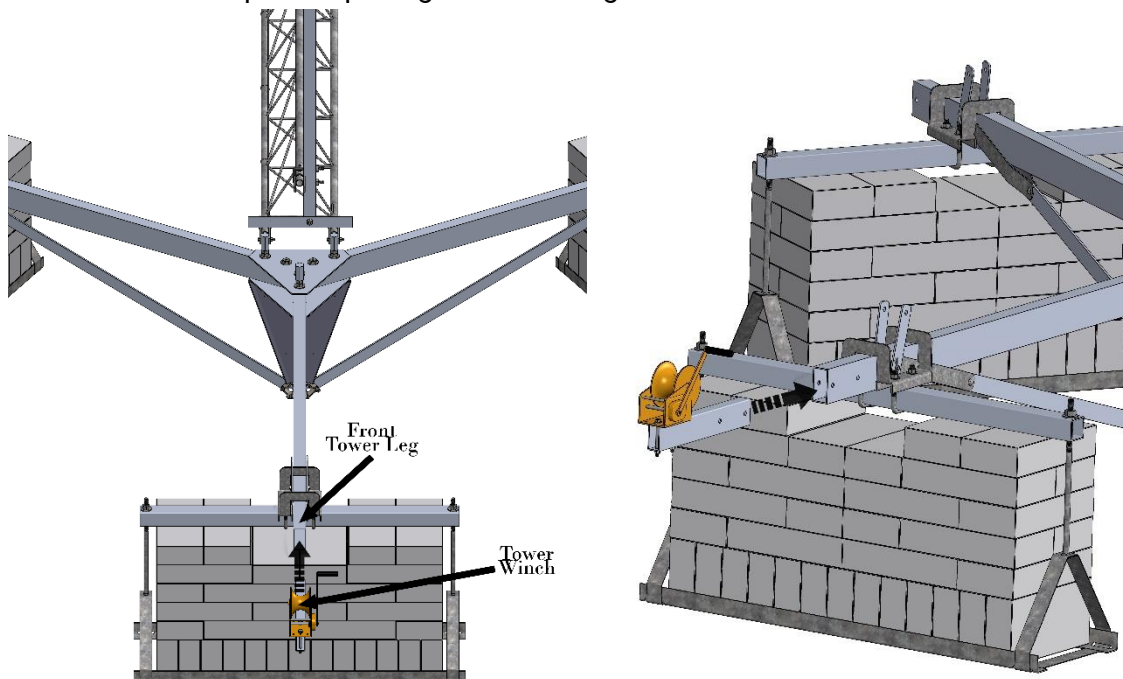
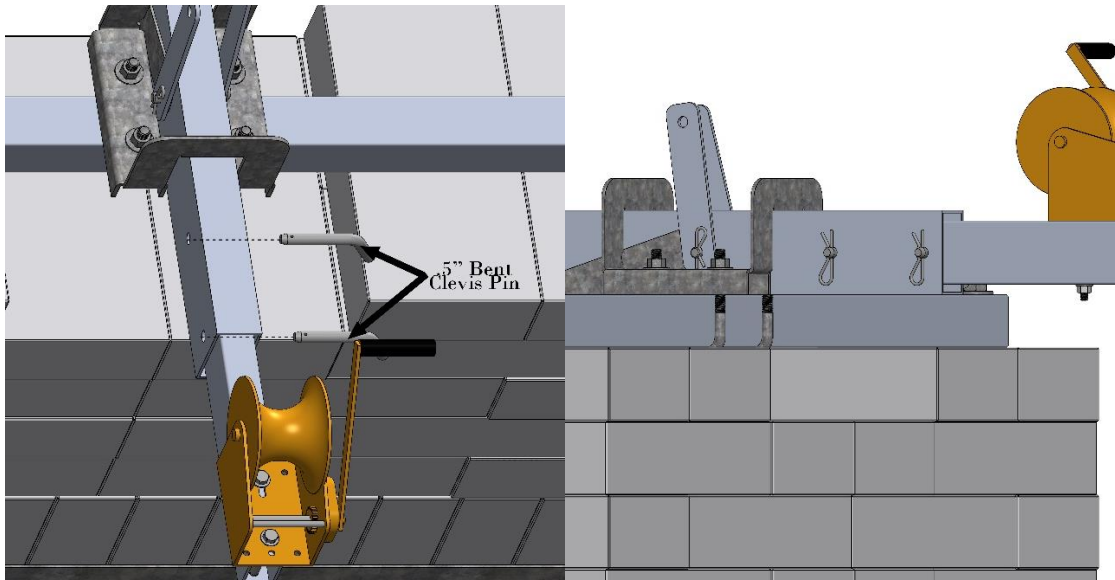

Figure 52 Inserting winch extension
Figure 53 Winch extension attachment
1. Install the winch extension piece into the front tower leg using (2) 5" clevis pins and cotter pins as per Figure 52 and Figure 53.